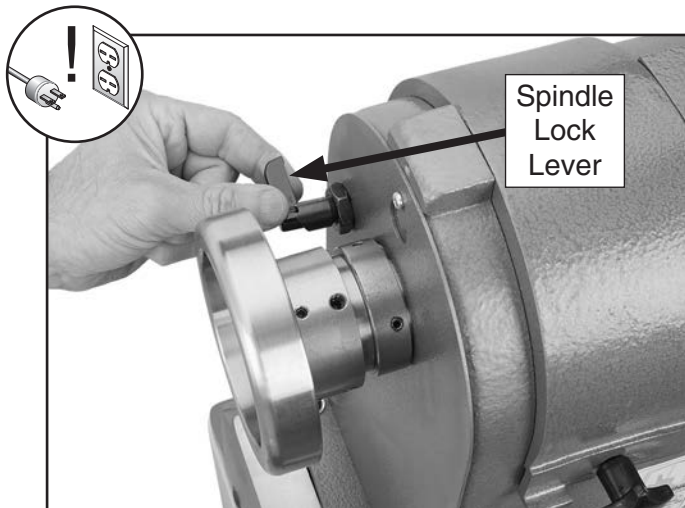

Figure 20. Using the spindle lock lever.
2. Pull the spindle lock lever out, then rotate it from the 12 o'clock unlocked position to the 6 o'clock locked position (see **Figure 20**).